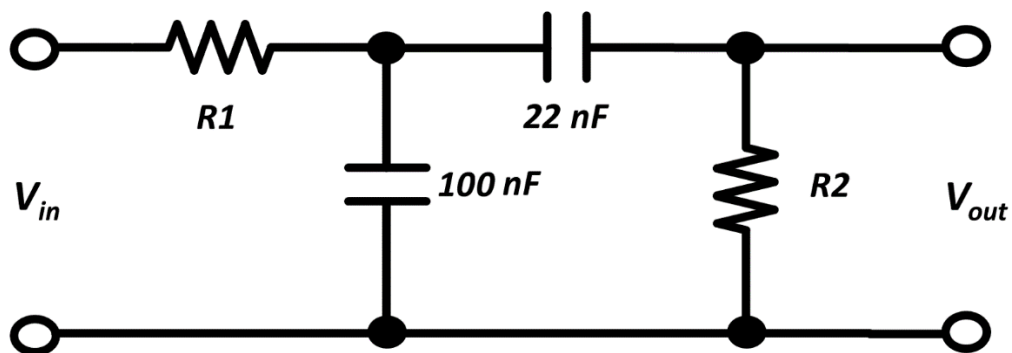

Figure 1
- (A) 700
- (B) 15
- (C) 4900
- (D) 25
- (A) $R = 314 \text{ k}\Omega$, $C = 0.01 \text{ }\mu\text{F}$
- (B) $R = 314 \text{ k}\Omega$, $C = 0.001 \text{ }\mu\text{F}$
- (C) $R = 209 \text{ k}\Omega$, $C = 0.001 \text{ }\mu\text{F}$
- (D) $R = 209 \text{ k}\Omega$, $C = 0.01 \text{ }\mu\text{F}$
8. Determine the resistor values to design a band pass filter as shown in Figure 1 with cut-off frequencies of 600 Hz and 1600 Hz.